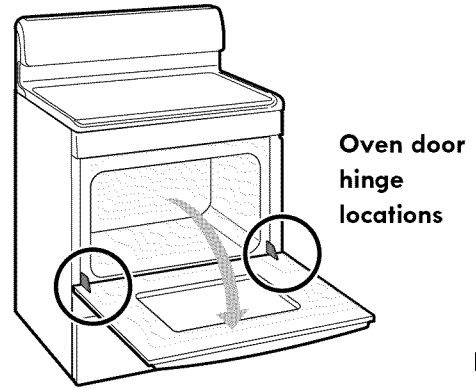

Fig. 1
3. Fully open the oven door (horizontal with floor - Fig. 1).